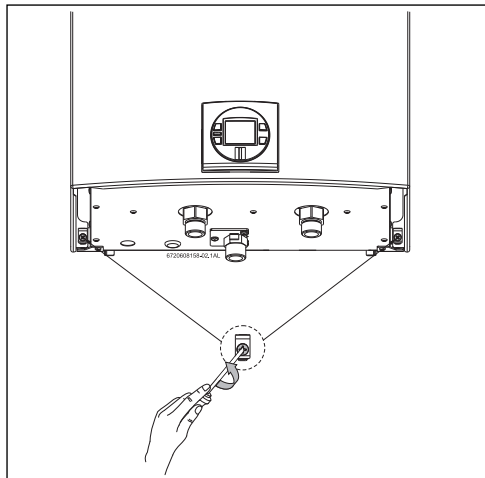

Fig. 2 Loosen the two screws
- ▶ Loosen the two Philips head screws located on bottom rear of cover (see Fig. 2).